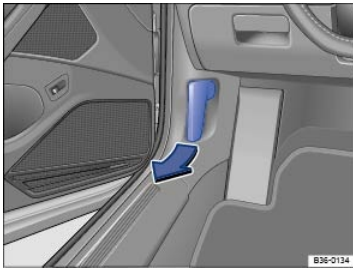

Fig. 174 In the footwell on the driver side: Inside engine hood release lever.
- Open the driver door and pull the inside hood release lever in the direction of the arrow ⇒ Fig. 174. The engine hood is released from its latch by a spring ⇒ .